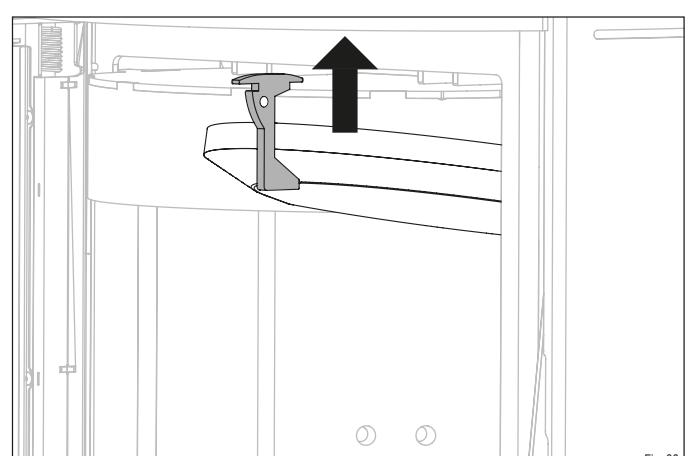

Fig. 38
- Slide the firebrick retainer upward (Fig. 38).